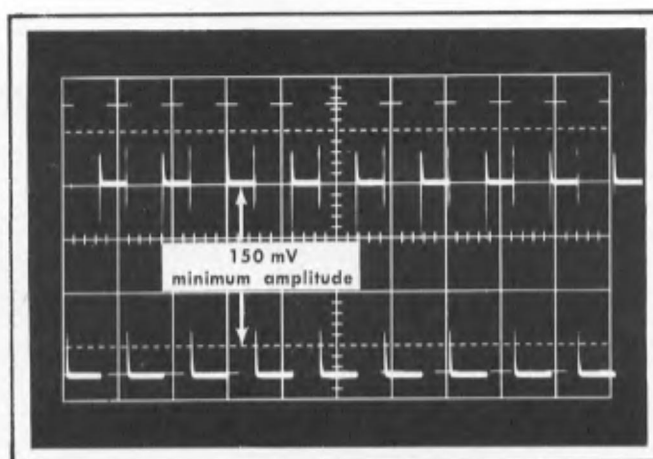

Fig. 7-9. Measurement of Pulse Out amplitude.
- Measure the amplitude of the negative pulse on the Test Oscilloscope display; see Fig. 7-9.